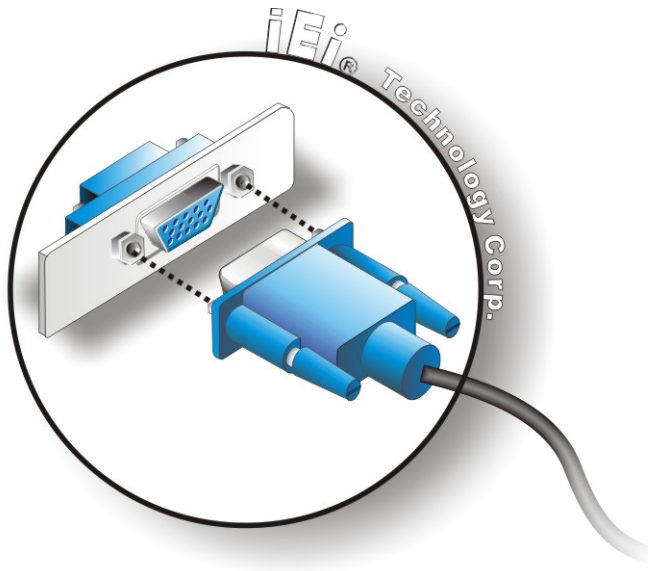

Figure 2-8: VGA Connector
- Step 3: Insert the VGA connector** Once the connectors are properly aligned with the insert the male connector from the VGA screen into the female connector on the EP-308A/EP-308AS. See Figure 2-8.